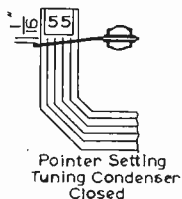

Fig. 4
2. Holding the tuning condenser to this position, turn the pointer until it is 1/16th of an inch below the three lines of the scale at the 550 kilocycle end. Refer to Fig. 4. This is the correct